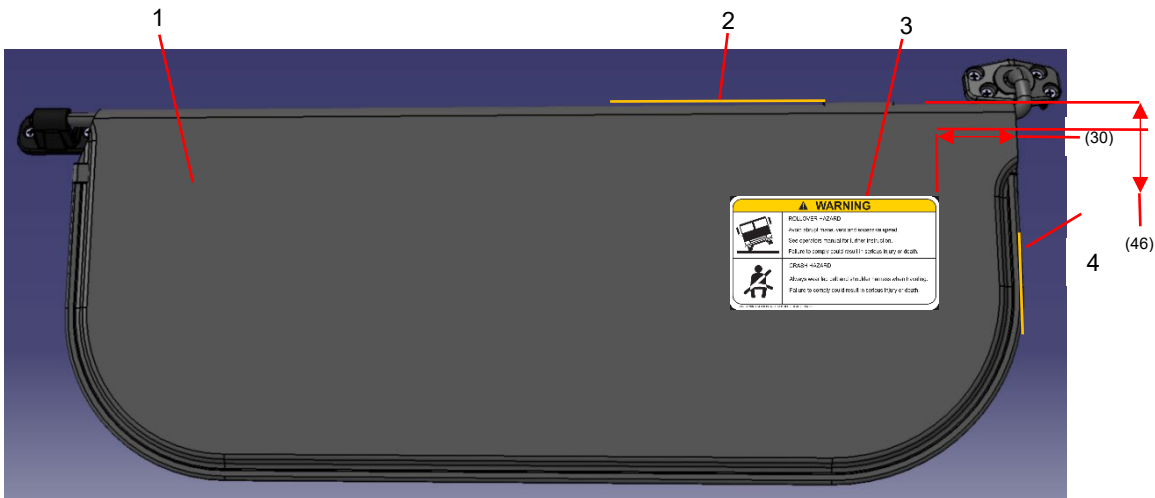

Figure 3. Rollover Warning Label Installation.
- 8) Measure down from the top edge (Figure 3, Item 2) of the driver side sun visor (Figure 3, Item 1) a distance of 46 mm (1.81 in).
- 9) Measure in from the curbside edge (Figure 3, Item 4) of the driver side sun visor (Figure 3, Item 1) a distance of 30 mm (1.18 in).
- 10) Once the placement location has been determined, remove the adhesive backing from the “Rollover” warning label (Figure 3, Item 3) and affix to the pre-determined location on the driver side sun visor (Figure 3, Item 1).